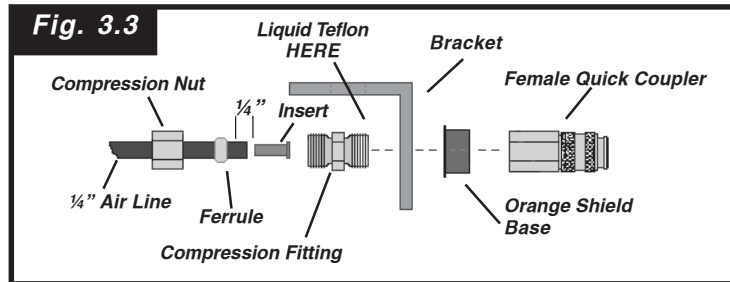

Fig. 3.3 MUST be used on the rear of the motorhome.
2. Find the Female Quick Coupler Assembly that **does not** have an orange shield base (see Figure 3.3) and install it just underneath the front edge of the driver's seat (with the seat in its rear most position). Make certain that the airline from the BRAKEMASTER cylinder is within reach of the Female Coupler before drilling any holes. Also check that the seat is capable of normal adjustments.
3. Connect the airline under the driver's seat to the Female Coupler as shown in Figure 3.3
6. Find a suitable location at the center rear of the motorhome and use the 1/4" bolts and nuts to install the Female Quick Coupler, with the orange shield base (see Figure 3.3).